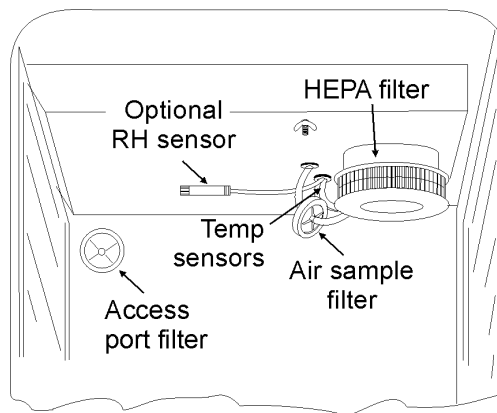

Figure 1-9
Locate the opening in the top left corner of the interior chamber. Remove the tape from the opening on the outside of the unit. Locate the stopper with filter in the hardware bag. Install in the opening inside the chamber. See Figure 1-9.
4. Insert the free end of the air sample filter tubing into the larger hole in the back of the blower scroll. See Figure 1-9 for completed configuration.
3. Install the filter as shown in Figure 1-9.